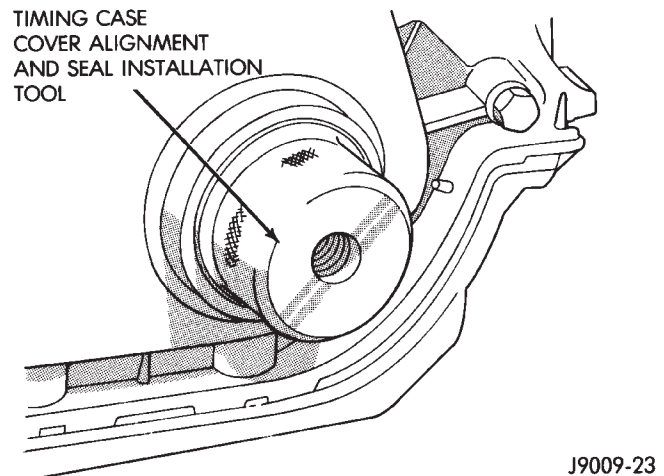

Fig. 40 Timing Case Cover Alignment and Seal Installation Tool 6139
(1) Install a new crankshaft oil seal in the timing case cover. The open end of the seal should be toward the inside of the cover. Support the cover at the seal area while installing the seal. Force it into position with Seal Installation Tool 6139.
(2) Position the gasket on the cylinder block.
(3) Position the timing case cover on the oil pan gasket and the cylinder block. Make sure the tension spring and thrust pin are in place in the camshaft preload bolt.
(4) Insert Timing Case Cover Alignment and Seal Installation Tool 6139 in the crankshaft opening in the cover (Fig. 40).